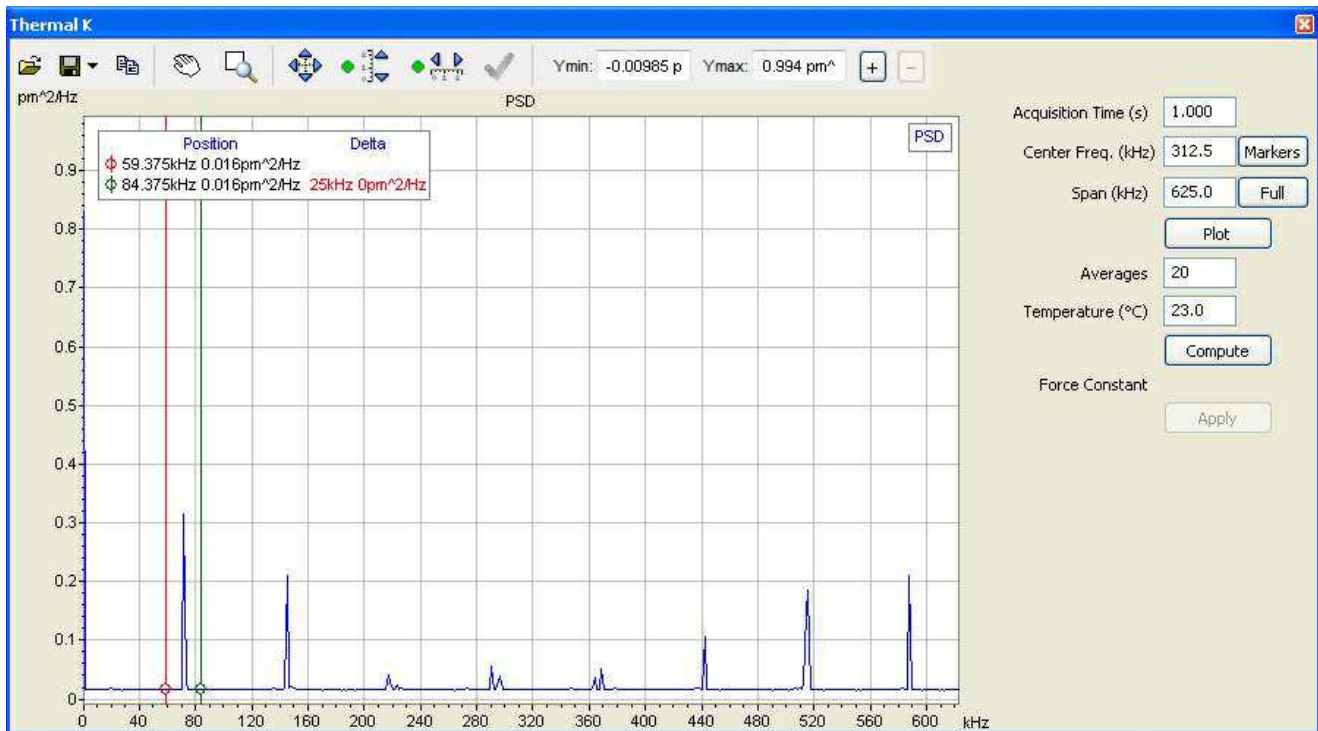

Figure 14-6 Thermal K PSD plot with markers set to define frequency range
- 14 A Thermal K PSD plot (Figure 14-6) should appear.